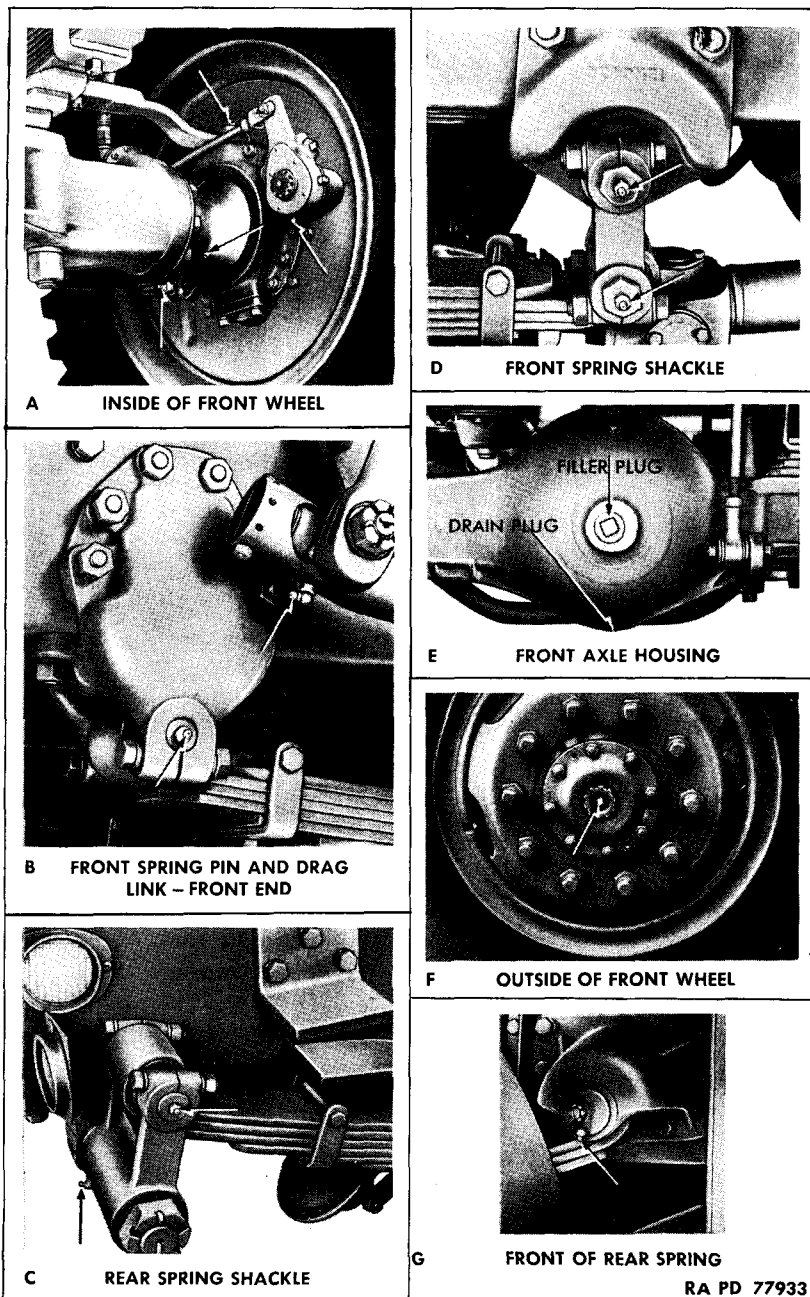
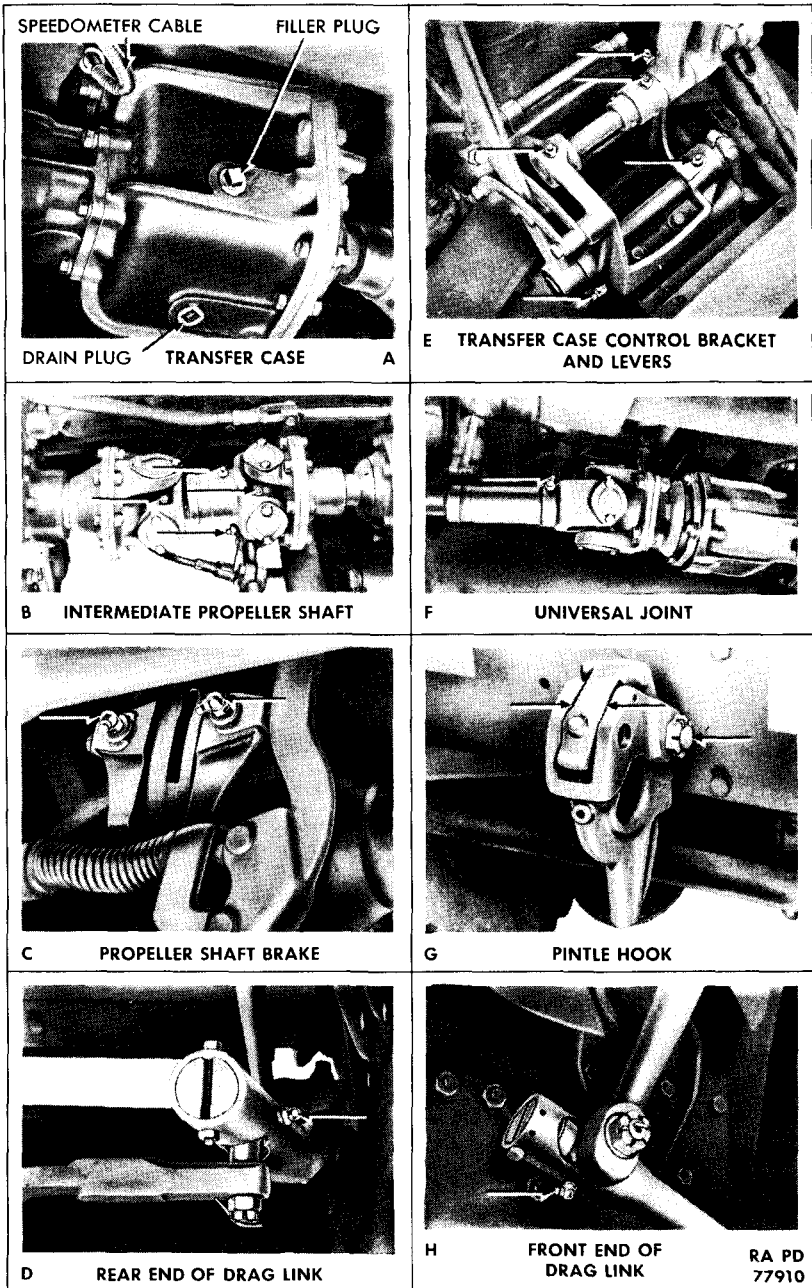

Figure 8 — Wheels, Axles, and Springs — Lubrication Points
Figure 9 – Miscellaneous Lubrication Points
B fig. 8 Spring Bolt
H fig. 9 Drag Link
A fig. 8 Slack Adjuster
D fig. 9 Drag Link
A fig. 8 Front Wheel Bearings
F fig. 8 Universal Joint and Lower
A fig. 8 Steering Knuckle Brg. (Note 4)
A fig. 8 Brake Anchor Pins
A fig. 8 Tie Rod
E fig. 8 Distributor
(7) **GEAR CASES (A and F, fig. 7; E, fig. 8; A, fig. 9).** Weekly, check level with truck on level ground and, if necessary, add lubricant to within 1/2 inch of plug level when cold, or to plug level when hot. Drain and refill at intervals indicated on guide. Drain only after operation. Keep housing vents clean. Transmission has "SUMMER" and "WINTER" level markings at filler plug.
(8) **UNIVERSAL JOINTS (FRONT WHEELS) (A, fig. 8).** With truck on level ground, remove plug on under side of joint; also remove plug in wheel hub and install fitting. Fill through fitting to level of plug hole. Remove fitting and reinstall plug.
(9) **UNIVERSAL AND SLIP JOINTS (B and F, fig. 9).** Apply **GREASE**, general purpose, No. 1 above +32°F. and No. 0 below +32°F. to universal joint until it overflows at relief valve, and to slip joint until lubricant is forced from vent at universal joint end of spline.
(14) **OILCAN POINTS (G, fig. 9).** Every 1,000 miles, lubricate throttle and spark control rod ends, clevises, hinges, latches, air compressor rocker arm shaft, pintle hook, and hand brake linkage with OIL, engine, SAE 30 above +32°F. or SAE 10 +32°F. to 0°F. Below 0°F., use OIL, lubricating, preservative, special.